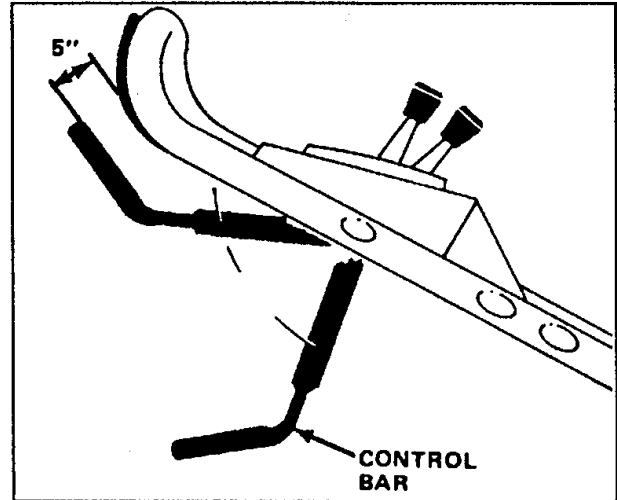

Figure 13
2. Push the control bar down to the lowest position (Fig. 13). This "latches" the mechanism prior to engaging the blade.
6. Push the control bar down to its lowest position, latching the mechanism (Fig. 13).
7. Slowly lift the control bar to a point where the bag just begins to inflate (about 5" below the handle) (Fig. 13). This indicates that the mower blade is engaged and has begun to rotate.